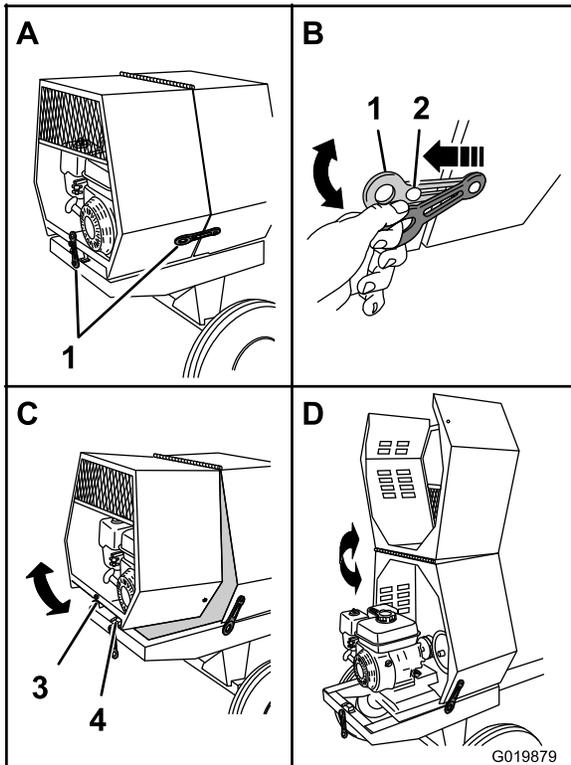

Figure 31
- Repeat step 3 on the opposite side of the machine (Figure 31).
- At the side of the machine where the front cowl and rear cowl meet, grasp the ring of the latch and pull it off from the latch anchor on the rear cowl (Figure 31).
- At the back of the machine where the rear cowl meets the frame of the machine, grasp the ring of the latch and pull it off from the latch anchor on the cowl (Figure 31).
- Rotate the rear cowl up and forward until it is fully positioned on top of the front cowl (Figure 31).
- Rotate the rear cowl rearward and down until the receiver at the bottom center of the cowl is aligned with the V-fitting and flush on the frame of the machine (Figure 31).